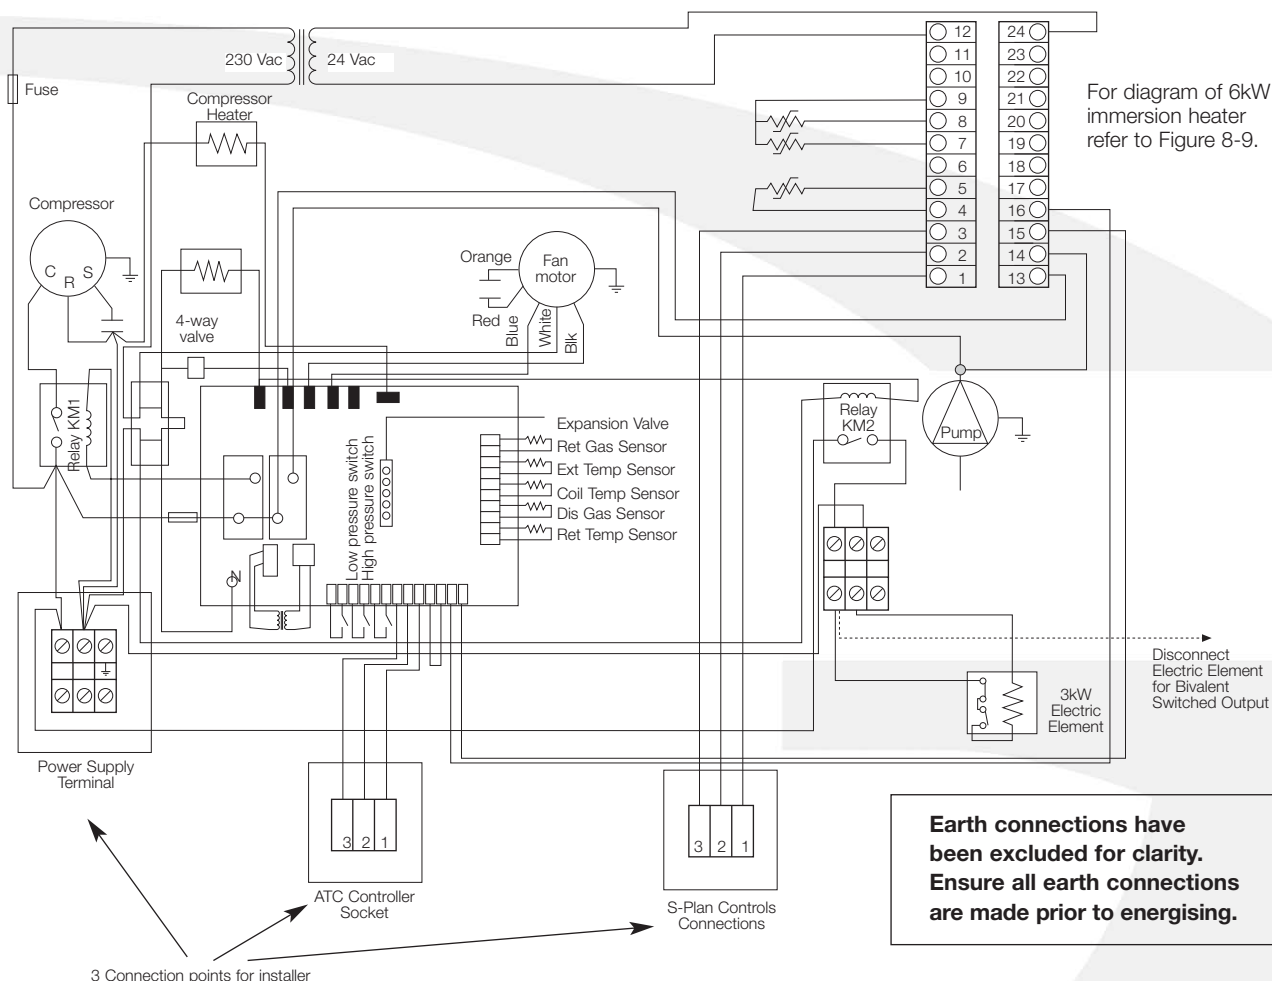

Figure 13-1: Heat pump wiring diagram
1. If no continuity can be found between terminals 1 & 2 and/or 1 & 3 when either the CH or HW is calling, this indicates a fault with S-plan heating control system. See Figure 13-1 for location of terminals.
2. Check the heating controls S-plan wiring. Refer to Section 8 of this installation manual. Check the demand for CH and HW in isolation, from the programmer, via either room or cylinder thermostats to the CH and HW motorised (zone) valves. Check that when the valves are energised that their end switches close – completing the 'volt-free' circuit between terminals 1 & 2 (CH) and 1 & 3 (HW).